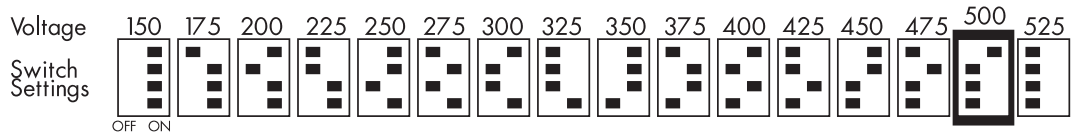

Figure 3.10 - Armature Voltage Switch Settings
1. Set the armature voltage to the motor's nameplate rating. Use the four-position switch on the right end of the calibration board to select the setting. The default setting is 500 volts. Use Figure 3.10 to select different voltages.